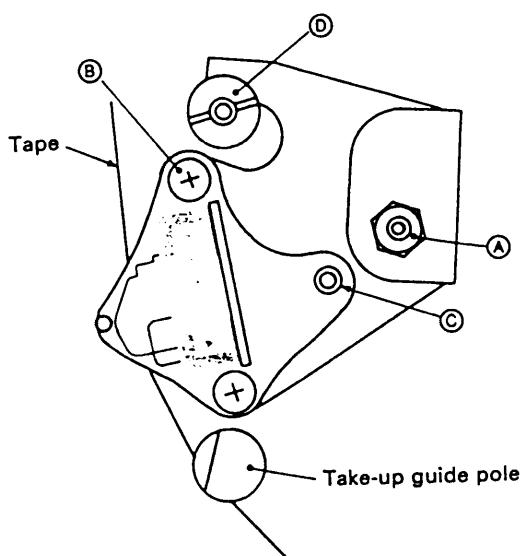

Fig. 6-7 Take-up guide pole.
- b) Turn Audio/CTL Head screw © as shown in Fig. 6-7 and adjust for smooth transport at the take-up guide pole as shown by F of Fig. 6-3.